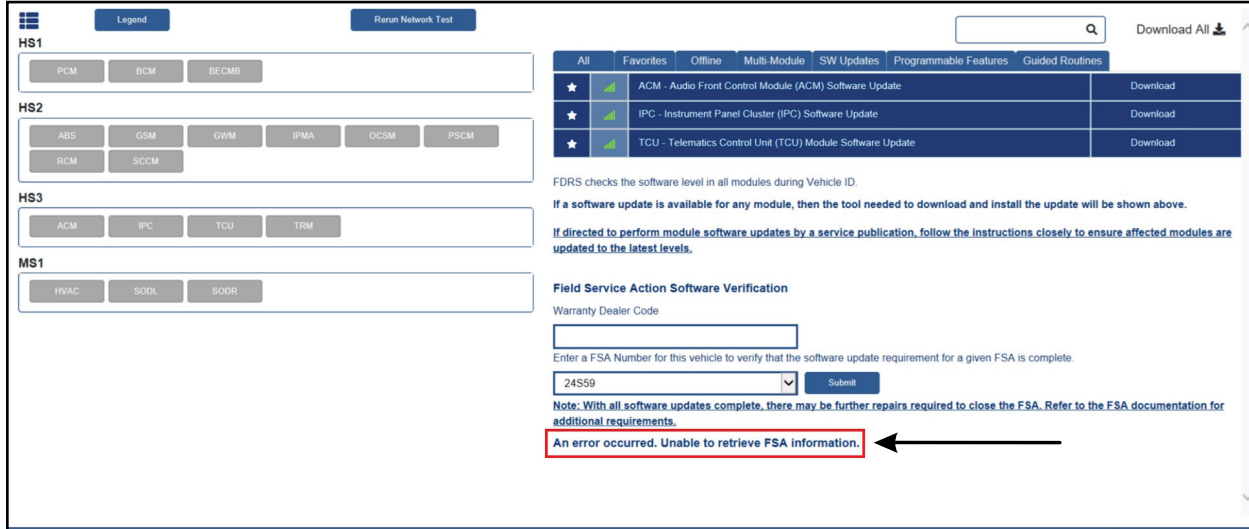

FIGURE 4
22. If the FDRS Field Service Action Software Verification Status displays **"An error occurred. Unable to retrieve FSA information"**, please reattempt to generate an SVC. The error can be caused by a connectivity or server issue where the status of the FSA cannot be verified. This is typically resolved upon reattempting to generate an SVC. See Figure 4.